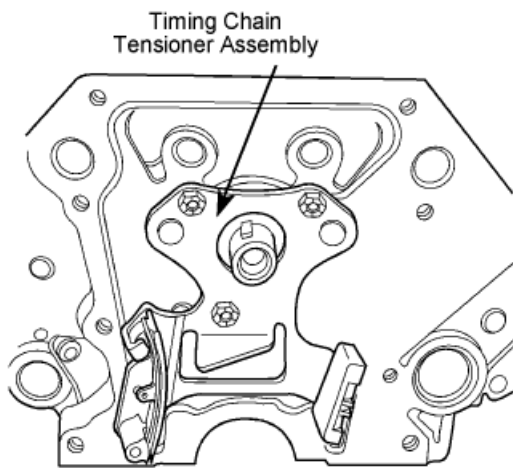

Figure 2
4. Install the timing chain tensioner p/n 53021195AA in the position where the thrust plate and oil tab was installed (Figure 2). Torque the bolts to 24 Nm (210 in. lbs.).